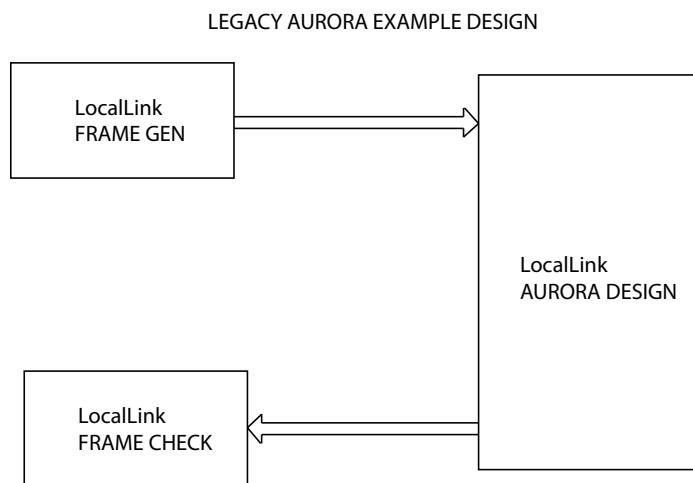
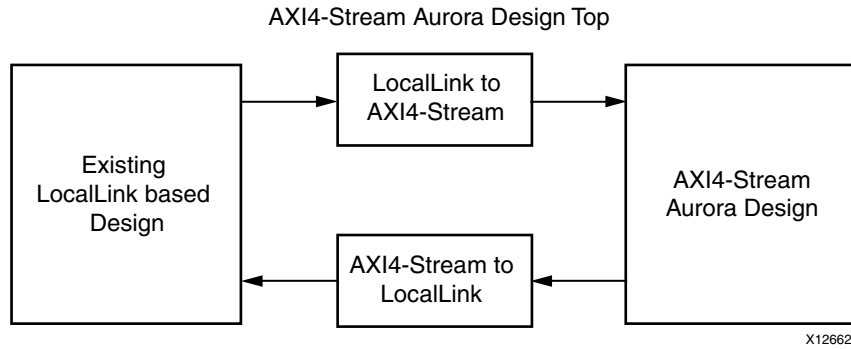

Figure B-1: Legacy Aurora Example Design
Figure B-2: AXI4-Stream Aurora Example Design
Figure B-1 shows an example Aurora design using the legacy LocalLink interface. Figure B-2 shows an example Aurora design using the AXI4-Stream interface.
2. See Figure B-2, page 110 for the emulation of a LL Aurora core from a AXI4-Stream Aurora core.
5. Connect the shim and AXI4-Stream Aurora design as shown in Figure B-2, page 110.